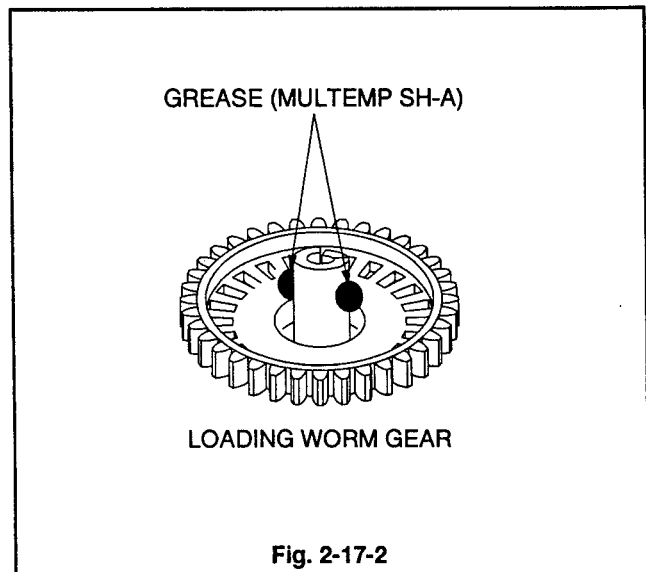

Fig. 2-17-2
1. Apply GREASE (MULTEMP SH-A) [859D055O80] to the area specified in Fig. 2-17-2 on the new LOADING WORM GEAR.